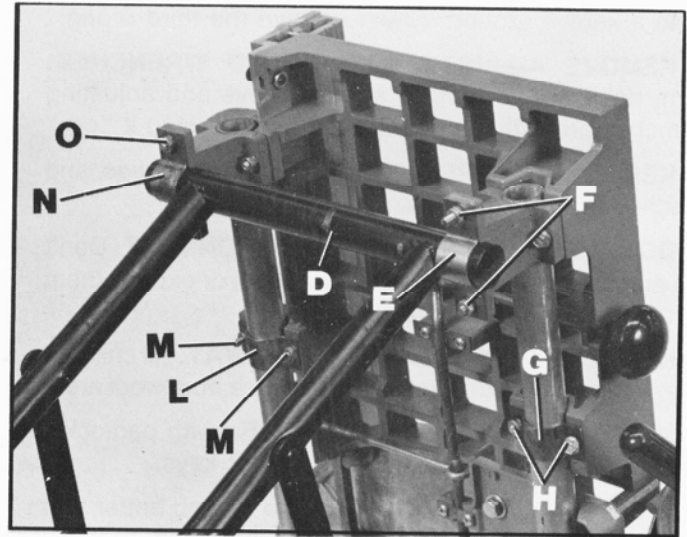

Fig. 4
2. Remove and save clamp bracket (G) Fig. 4. Do not discard mounting hardware (H) as this hardware will be used to fasten the leg hinge bracket to the saw base.
3. Assemble the leg brace (D) Fig. 4, to leg mount using the clamp bracket (E) and the two 1/4 x 1" hex head cap screws, 1/4" lockwashers and hex nuts (F). NOTE: Clamp bracket (E) is the same clamp bracket that was removed in (G) STEP 2.
5. Remove and save clamp bracket (L) Fig. 4. Do not discard mounting hardware (M) as this hardware will be used to fasten the leg hinge bracket to the saw base.
6. Fasten the leg brace (D) Fig. 4, to the leg mount using the clamp bracket (N) and the two 1/4 x 1" hex head cap screws, 1/4" lockwashers and hex nuts (O). NOTE: Clamp bracket (N) is the same clamp bracket that was removed in (L) STEP 5.